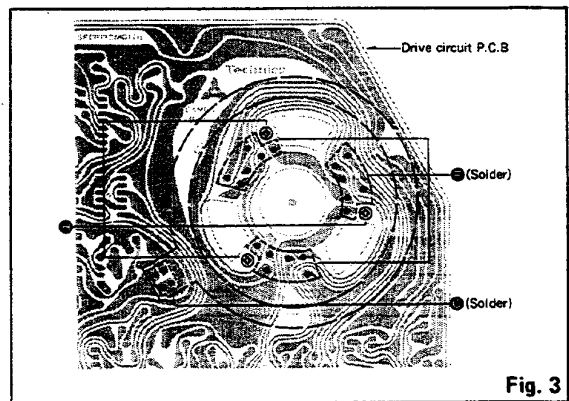

Fig. 3
6. Disconnect 18 soldered parts **F** of the stater coil and 4 soldered parts **G** of the F.G detector coil as show in Fig. 3.
7. Remove 3 screws **H** of the stater frame ass'y as shown in Fig. 3.